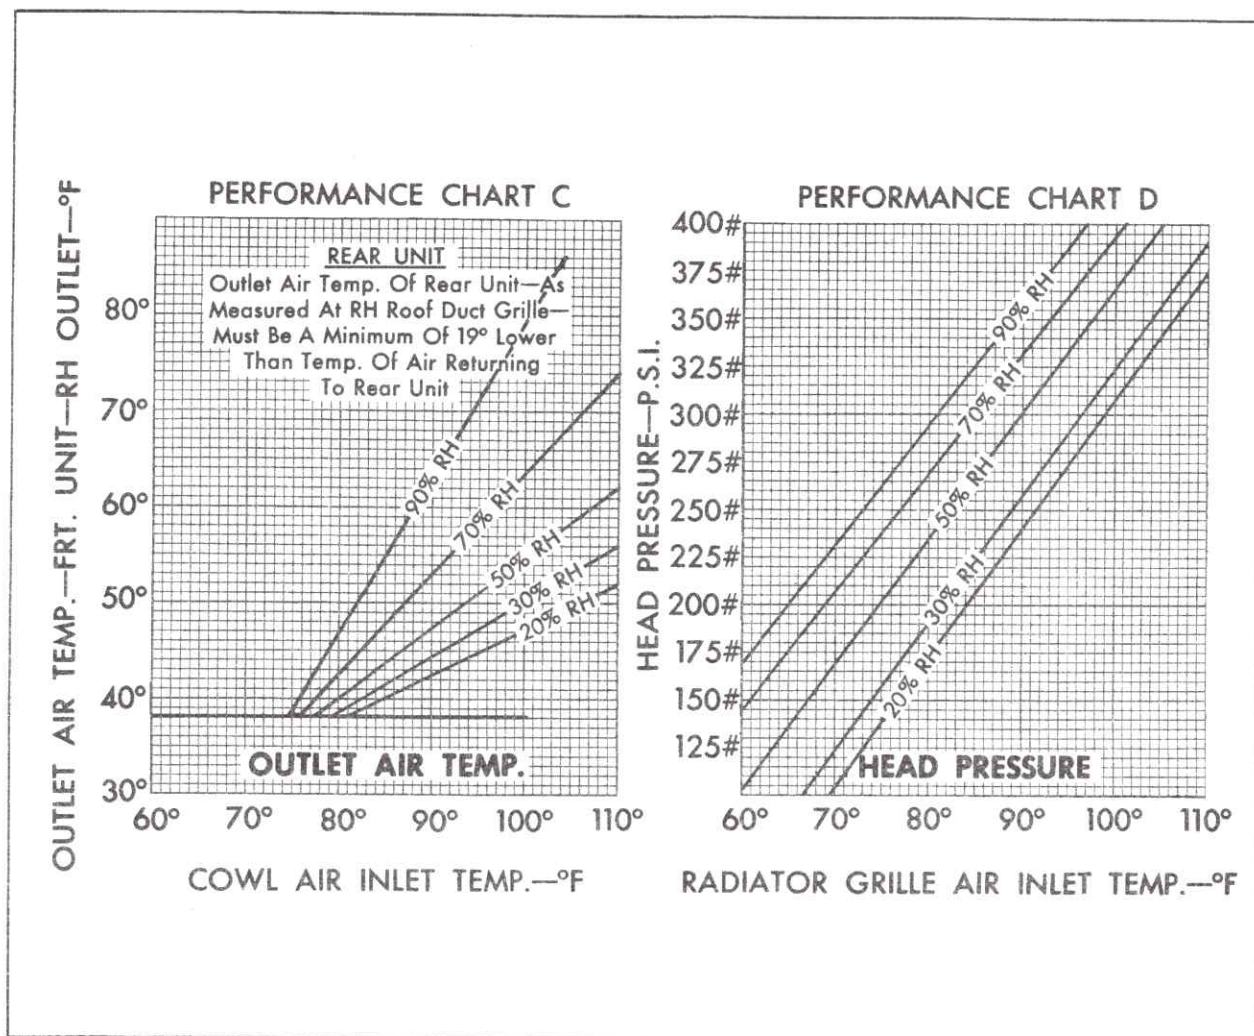

Fig. 1-78 Air Conditioning Performance Chart (697)
20. Refer to Chart C, Fig. 1-78 to determine if outlet air temperatures are normal. If outlet temperatures are the same or below reading on chart, operation is normal.
21. Refer to Chart D, Fig. 1-78 to determine if head pressure is normal. If head pressure is within 30 pounds below reading on chart, operation is normal.